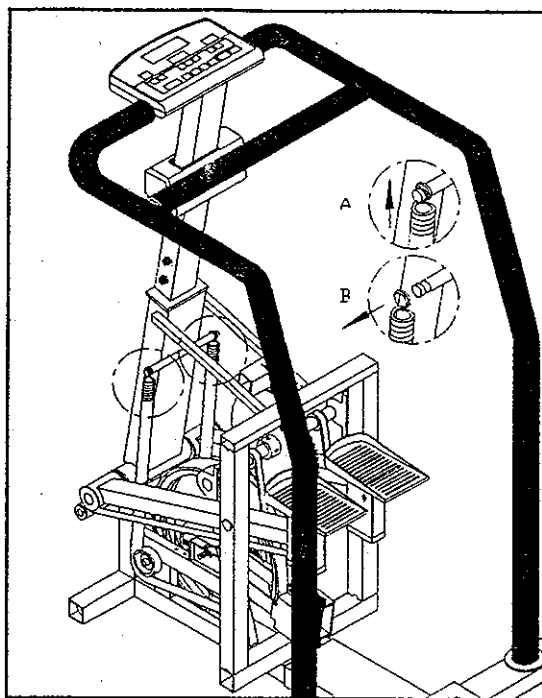

Fig. 8
7. Raise up the springs to release both sides, following steps A and B (see Fig. 8).